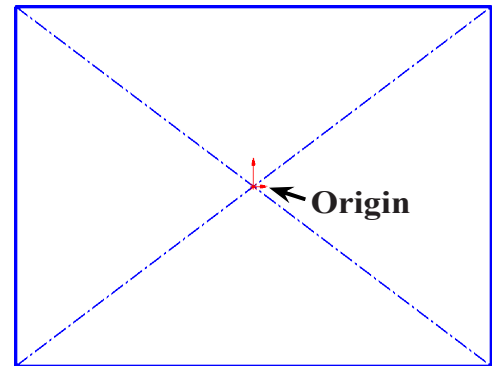
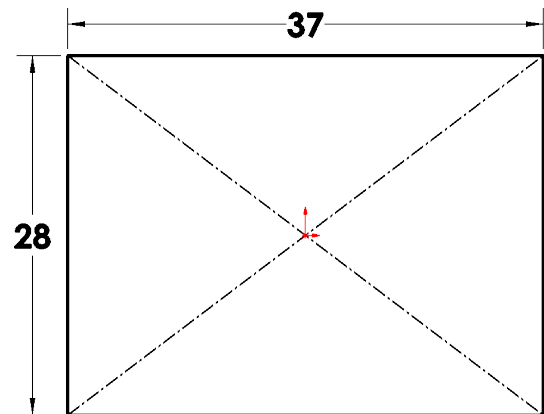

Fig. 2
Fig. 3
Step 4. Sketch a center rectangle at the Origin , **Fig. 2**.
Step 5. Click **Smart Dimension**  (S) on the Sketch toolbar.
Step 6. Add dimensions 28 x 37, **Fig. 3**.